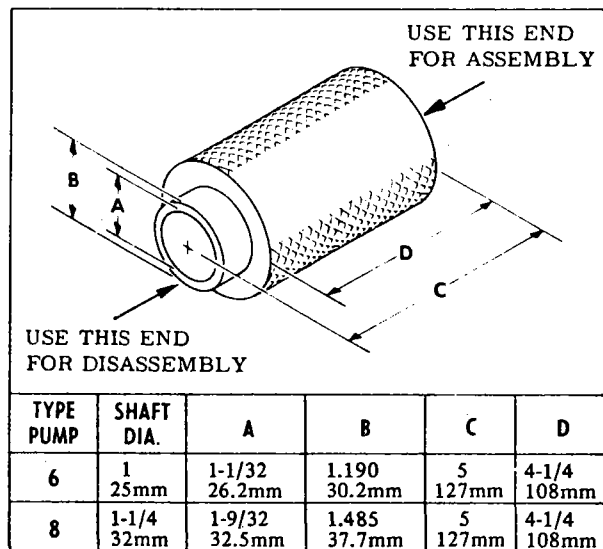
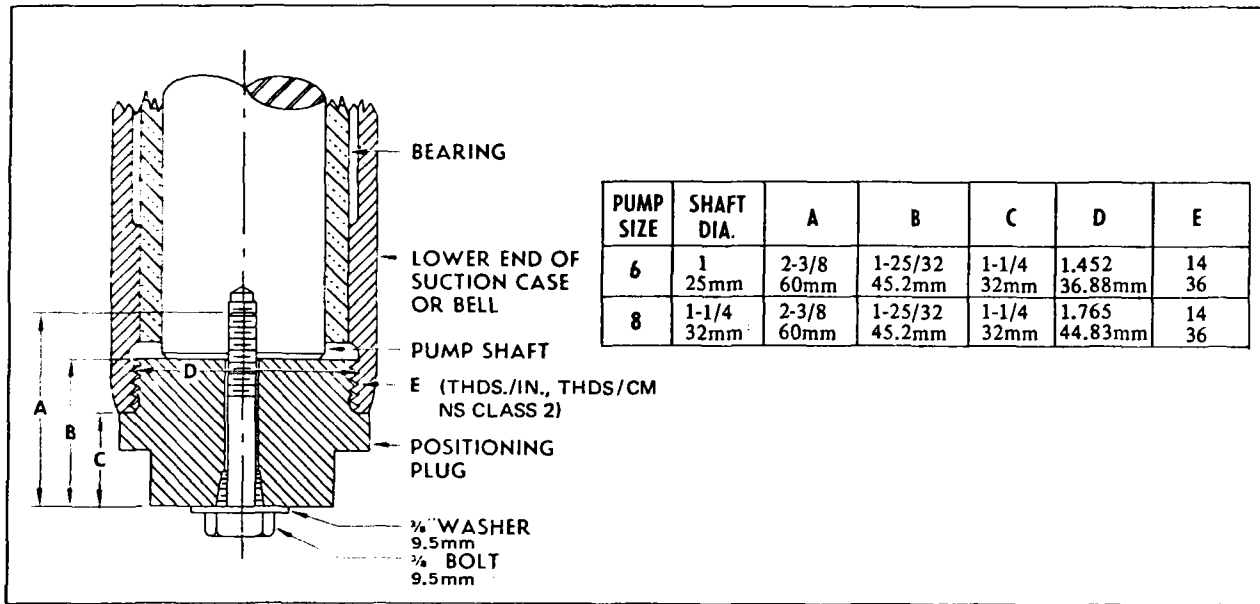

Figure 2-1. Impeller Lock Collet Driver
Figure 2-2. Positioning Plug
2-6. The Impeller Lock Collet Driver (figure 2-1), is used to wedge the lock collet between the impeller and the pump shaft. The driver has a knurled handle portion to allow a firm hold when in use and is case hardened for added strength. To use the driver, place it over the pump shaft with the proper facing towards the impeller, and seat or unseat the collet by striking it sharply with the driver.
2-8. The Positioning Plug (figure 2-2), is designed to simplify establishment of proper clearance between moving and stationary parts of the bowl assembly after assembly.
- b. Remove suction case plug (1) from bottom of suction case.
- c. Loosen suction case (2) with chain tong, then turn off until case is clear of pump bowl and slide case over lower end of pump shaft. Suction case bearing (3) will slide off with suction case.
- d. Loosen setscrew (4) on sand collar (5) and slide collar over lower end of pump shaft.
- e. Use driver tool (figure 2-1) to drive impeller lock collet (7) toward top of bowl assembly.
- f. Slide impeller (6) over lower end of pump shaft.
- g. Place blade of screwdriver in split on the collet (7) and slide the collet over lower end of pump shaft.
- h. Loosen pump bowl (8) with chain tong, then turn off until bowl is clear of next stage and slide bowl over lower end of pump shaft. Pump bowl bearing (9) will slide off with pump bowl.
- i. Repeat steps e through h to remove remainder of bowls. When top bowl (10) is removed, top bowl bearing (11) and seal (12) will slide off with top bowl.
- j. Slide discharge case (13) over lower end of shaft.
- a. Screw the positioning plug (figure 2-2) into the lower end of the suction case (2) and lay in a horizontal position.
- b. Insert shaft fully into suction case and lock against positioning plug (figure 2-2) by tightening 3/8" (9.5mm) bolt on the positioning plug.
- c. Slide the sand collar (5) down the shaft and turn it back and forth until it fits fully down over the suction case bearing housing, then tighten setscrew (4).
- d. Slide impeller (6) down pump shaft until it rests in the recess at the top of the suction case.
- e. Place screwdriver blade in split in impeller collet (7) and slide collet down shaft until it rests in the impeller. Work the collet by hand as far into the impeller as possible.
- f. Use the impeller lock collet driver (figure 2-1) to drive the collet securely between the impeller and pump shaft.
- g. Remove collet driver from shaft and slide bowl (8) down shaft until it mates with the top of the suction case. Thread bowl on to the suction case and use chain tong for final tightening.
i. Slide the discharge case (13) down the shaft slowly until it mates with the top bowl. Thread discharge case onto the top bowl and use chain tongs for final tightening.